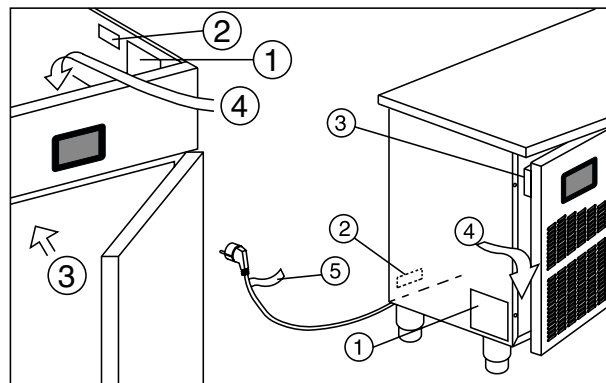

Fig.2
**8.1 safety devices adopted (Fig. 2) :**
- Do not remove the labels applied at the inner edge of the engine compartment, showing the technical specifications (1) and the instructions for grounding (2)
- Do not remove the label applied on the evaporator guard and near the electrical wiring inside the engine compartment, which warns the user to turn off the power supply before working on the unit (3)
- Do not remove the labels applied inside the engine compartment, indicating grounding (4)
- Do not remove the label applied on the power cord, indicating the type of power supply (5)